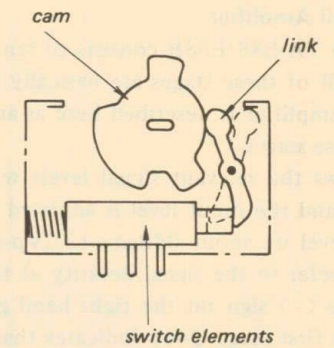

Fig. 21
**1-3-6. Switch Angle Alignment (See Fig. 21.)**